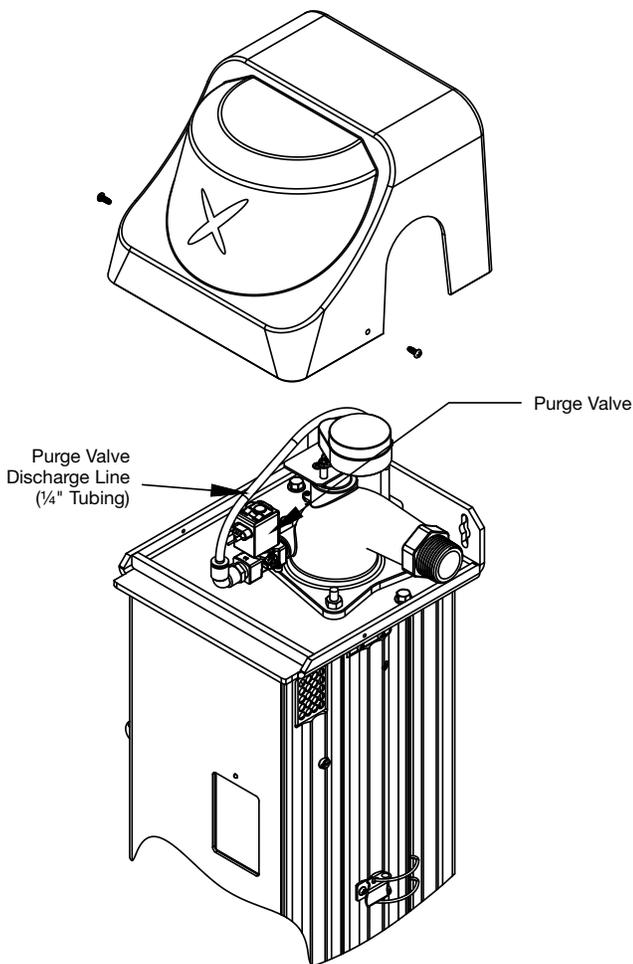

Figure 4-3
3. Connect the purge valve to a drain using the tubing provided – see Figure 4.3. Note that an air gap of two pipe diameters or 25 mm (1 in), whichever is larger, is required between tubing and drain - follow local plumbing regulations. The tubing can be placed down the back side of the unit. The tubing should be secured to the wall or floor to prevent it from moving during the purging cycle. **During startup of the unit, test the purge valve to confirm connections are free of leaks and the water discharges to drain.**